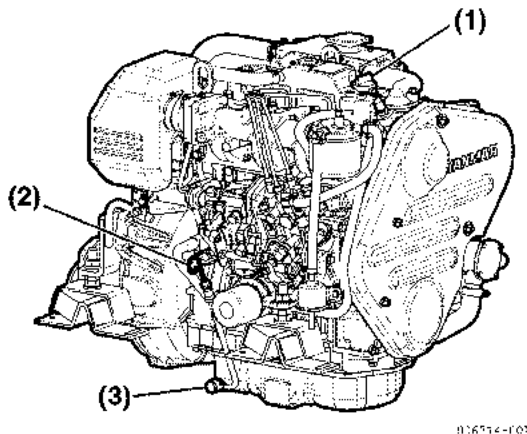
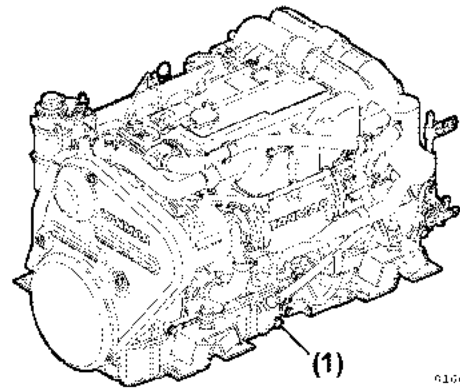

Figure 8-5
Figure 8-6
1. Remove oil filler cap (yellow) at top of rocker arm cover (Figure 8-5, (1)).
2. Remove the engine oil dipstick (Figure 8-5, (2)).
4. Remove pipe joint bolt (Figure 8-5, (3)) or drain plug (Figure 8-6, (1)) and drain engine oil to appropriate vessel. Dispose of used oil properly. **NOTICE: ALWAYS be environmentally responsible.**